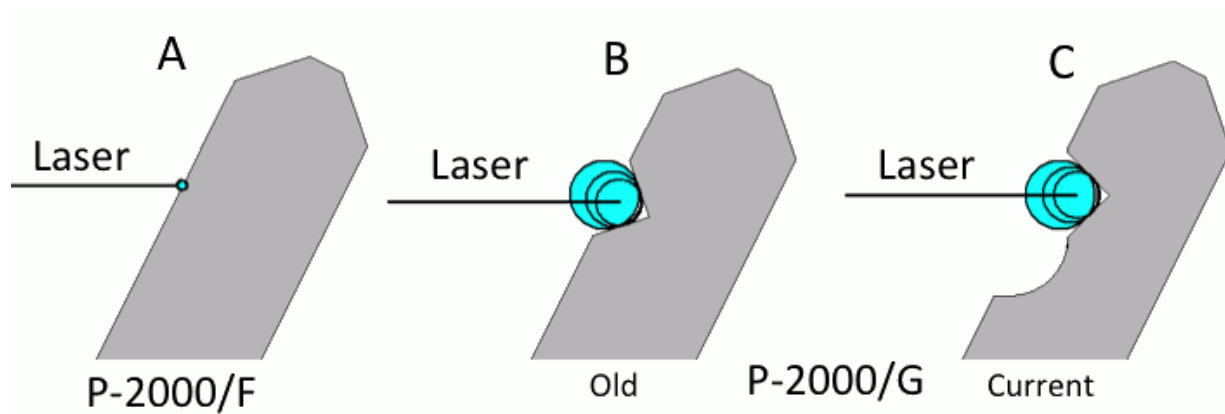

Figure 1-3. Puller Bar styles.
See Figure 1-3 for the three different styles of puller bars found on P-2000/G and P-2000/F Pullers. The “old-style” puller bars for model P-2000/G (Figure 1-3B) were discontinued in 2006. All current models ship with the new-style puller bars (C), which ensure that the laser is directed towards the center of the glass capillary irrespectively of its diameter. A glass loading aid is available should you have persistent problems clamping the glass capillary with new-style puller bars (Figure 1-3C).